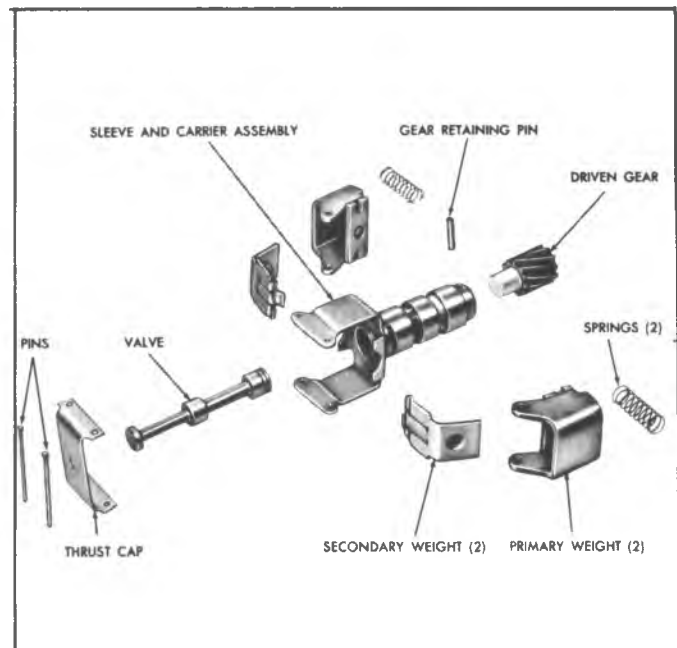

Fig. 93M--Governor Assembly--Exploded View Typical
1. Cut off one end of each governor weight pin and remove pins, governor thrust cap, governor weights, and springs. Governor weights are interchangeable from side to side and need not be identified (fig. 93M).